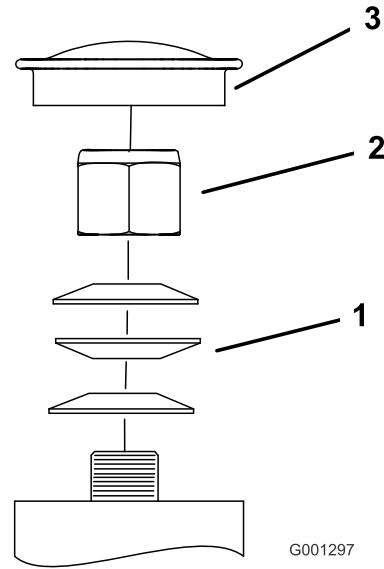

Figure 64
3. Remove the dust cap from caster and tighten the locknut (Figure 64).
4. Tighten the locknut until the spring washers are flat, and then back off a 1/4 turn to properly set the preload on the bearings (Figure 64).
Important: Make sure that the spring washers are installed correctly as shown in Figure 64.
5. Install the dust cap (Figure 64).